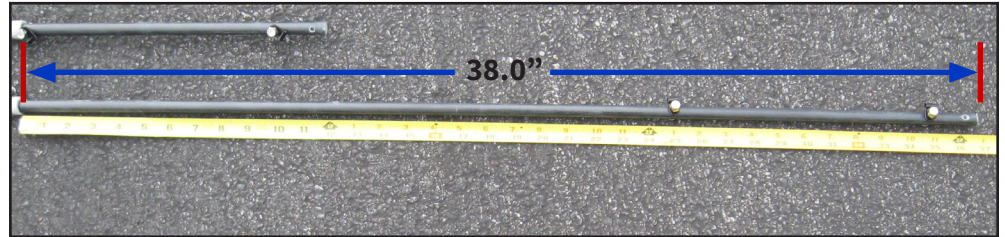

Fig. 67
- Repeat the previous step for each one of the remaining three (3) elements.
- Select both of the two (2) Spreader Assemblies and place them in the workspace. Loosen the 3/4" SS Hose Clamp on one of the Spreader Assemblies and extend the 0.5" OD Rod to a length of 38.0" as shown in Fig. 67. Tighten the 3/4" SS Hose Clamp.